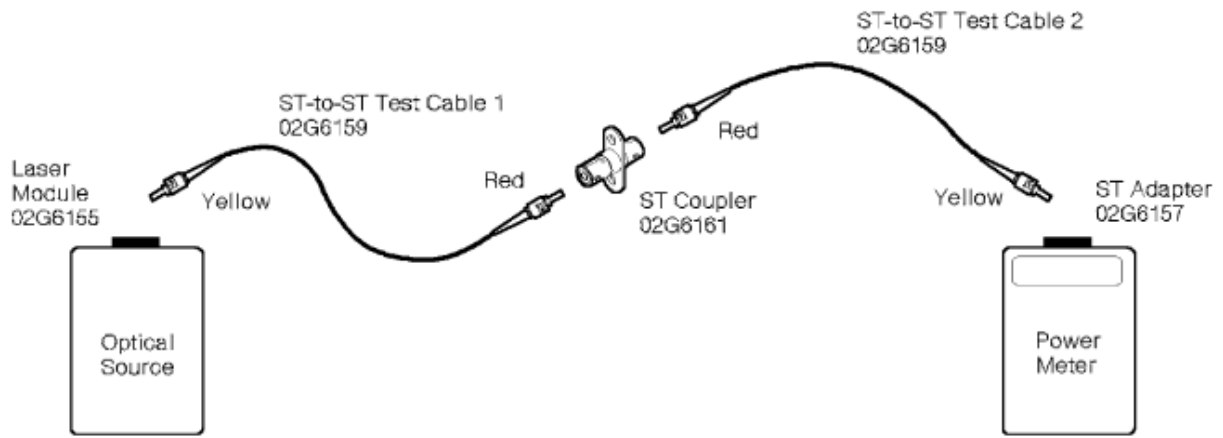

Figure 57. Obtaining **P1** for a single-mode link
3. Make sure all connectors are clean; then assemble the test equipment (see Figure 57 on page 50).